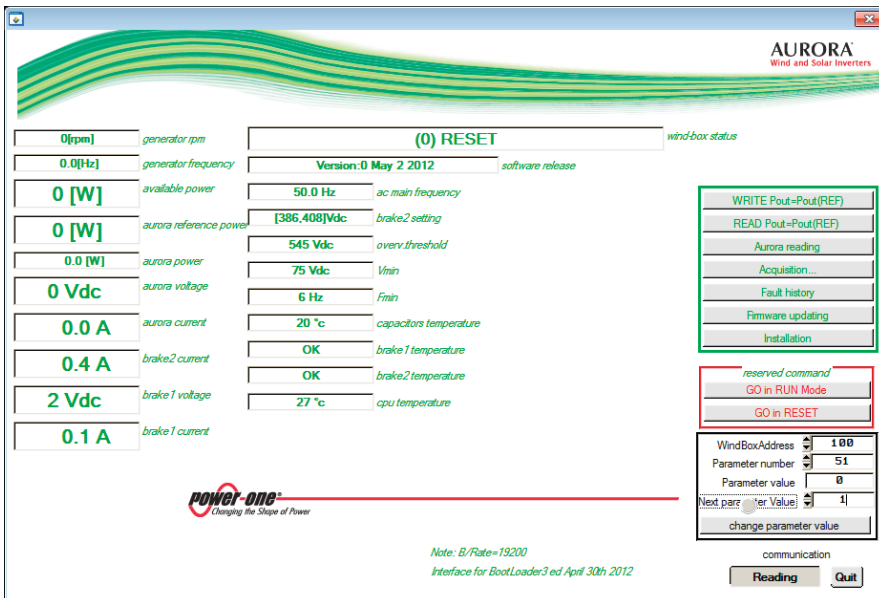
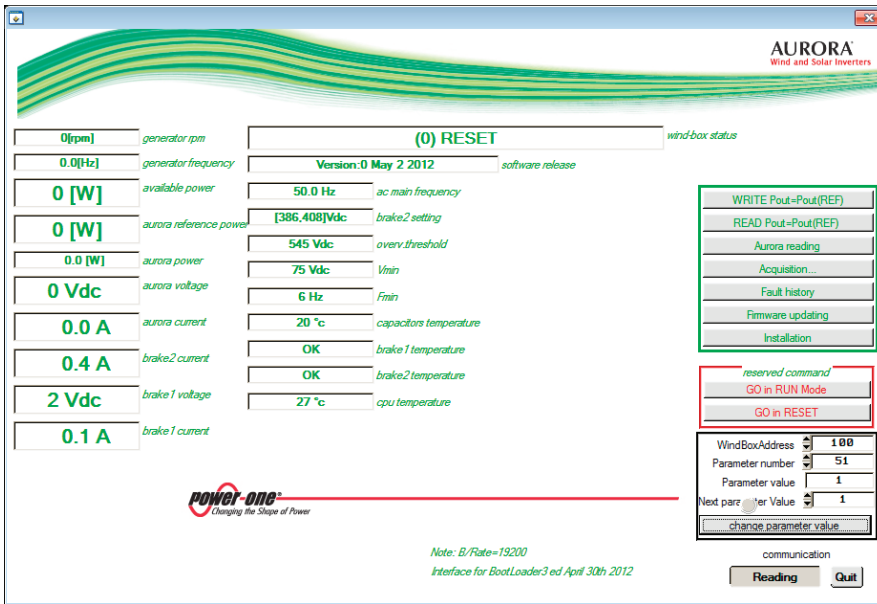

Figure 4
Figure 5
14) Enter “51” in “Parameter number” and “1” in “Next parameter Value”. Click on “change parameter value” (Fig. 4). “Parameter value” will then change to “1” (Fig. 5).